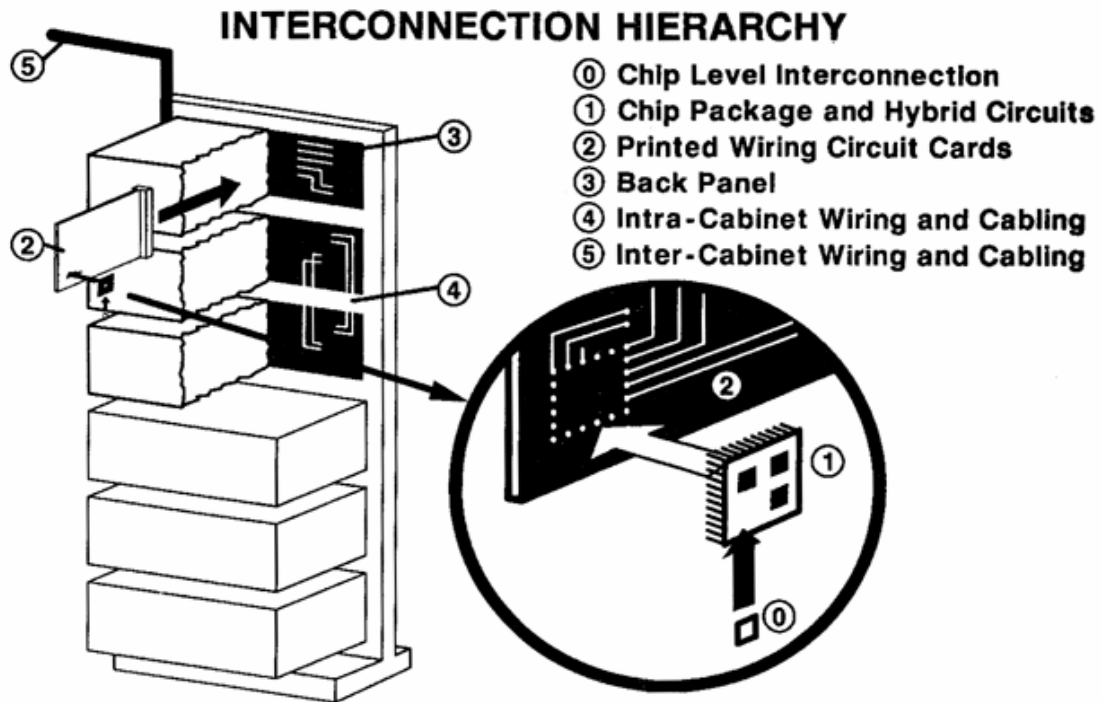

Fig. 1.2: Levels of interconnection in large electronic systems.
Suggested answer: Make graphical presentation or text description of figure 1.2:
In electronic systems we talk about different "levels of interconnection", please refer to Figure 1.2. The lowest, level 0 is the interconnection of integrated, single transistors on a silicon (or gallium arsenide) integrated circuit (IC) chip. The chips communicate by interconnection on level 1, which is a hybrid circuit or a module. Alternatively it can be the wiring inside an IC package, between the chip and the external solder joints of the package. Level 2 is the wiring on a printed circuit board (PCB) where ICs and discrete components are mounted.